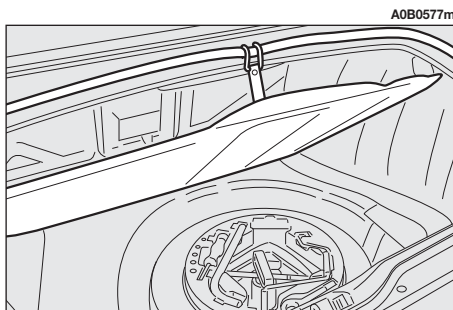

fig. 1a
- Lift the boot carpet and hook it as shown in **(fig. 1a)**.